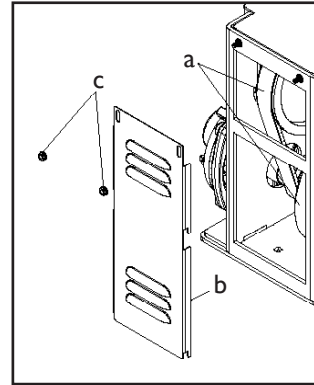

Figure 6: Checking belt tension
2. Be sure that the belts (a) are properly tensioned before use. Remove the side cover (b) by loosening the two 1/4" flange nuts (c) that attaches it to the main frame and lifting the cover off, and check the belt tension (Figure 6).